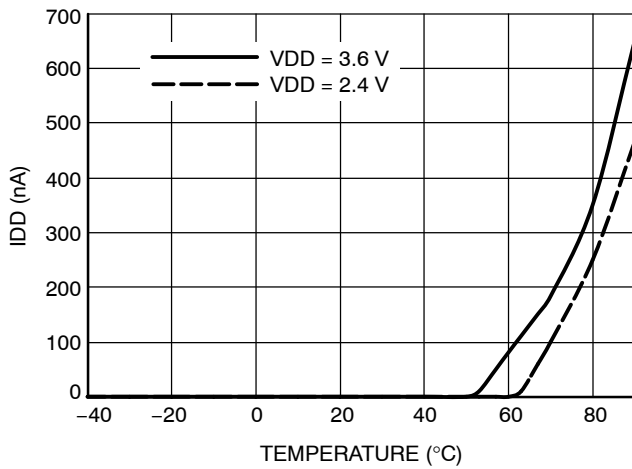

Figure 14. Supply Current in Power Down Mode vs. Temperature (100 lux, Tint = 200 ms)
3. Current dissipation when in Power Down mode. 800 nA power down current at 85°C (see Figure 14).